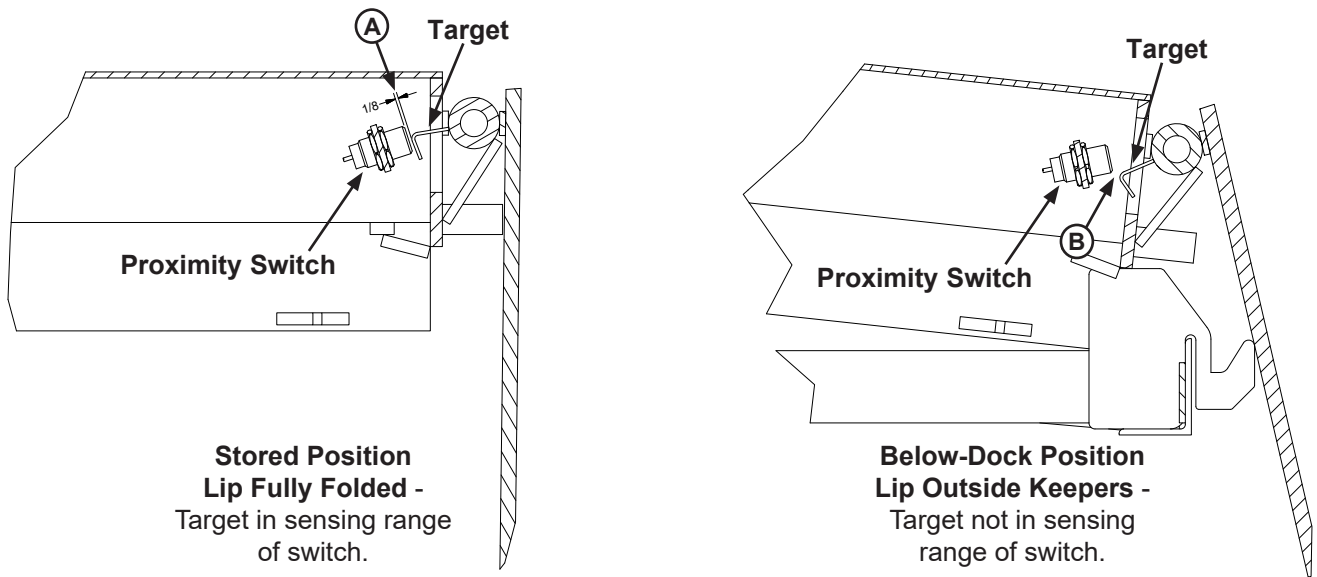

Figure 29
3. Press the RAISE button. The dock leveler should NOT raise. If the leveler did not raise, proceed with step 4. If the leveler did raise, decrease dimension (A), so that the target is in the sensing range of the switch. Typical factory setting for (A) is approximately 1/8". Make adjustments at switch until leveler does not raise when the vehicle restraint is not engaged on transport vehicle RIG bar. See Figure 29.
6. Press the RELEASE button. The vehicle restraint should NOT disengage from the transport vehicle RIG bar or test fixture. If the vehicle restraint did NOT disengage, proceed with Step 7. If the vehicle restraint DID disengage, move the switch farther from the target or bend the target to increase dimension (B) so that the target is not in the sensing range of the switch. Make adjustments at switch and/or target until vehicle restraint does not disengage transport vehicle. See Figure 29.